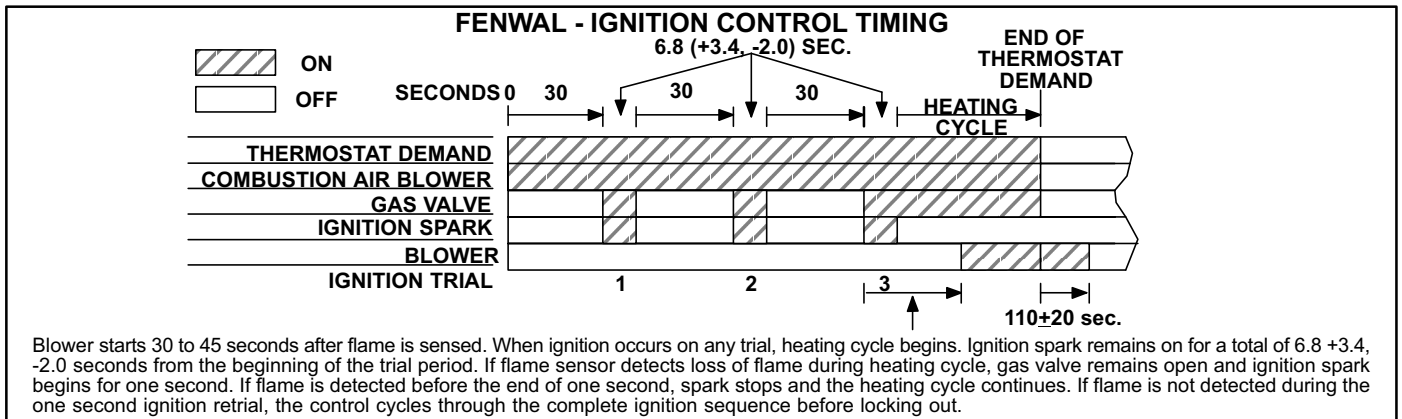

FIGURE 23
- e- Specific timings for the Fenwal control are shown in figure 23.